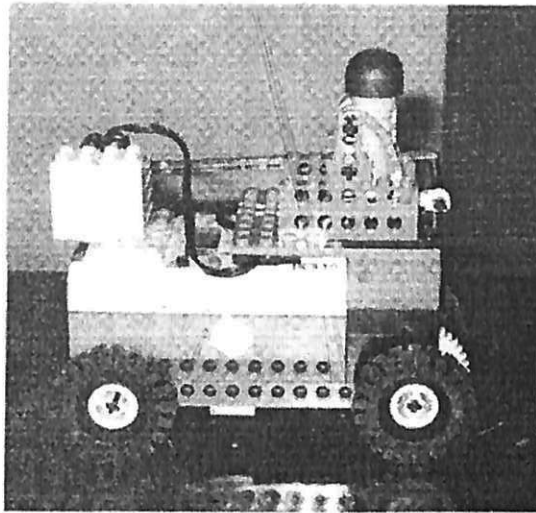

Figure 3.4.1 LEGO model with launcher
2. Add to the car a simple launcher, such as the one shown using a Spring- Loaded Rubber tipped dart LEGO piece (see Figure 3.4.1).